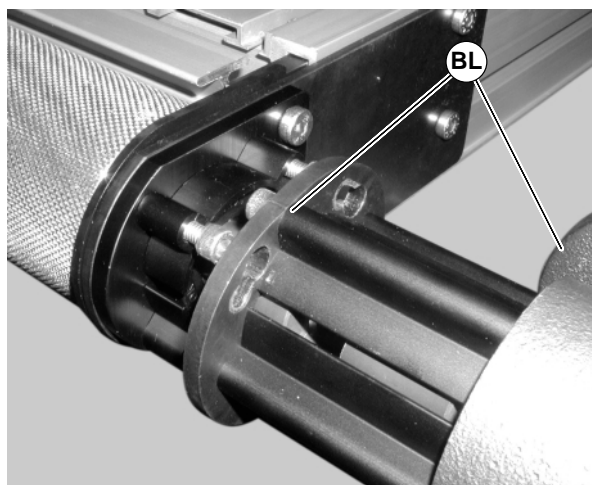

Figure 45
- 3) Rotate and remove the gear motor and guard assembly (BL of Figure 45).